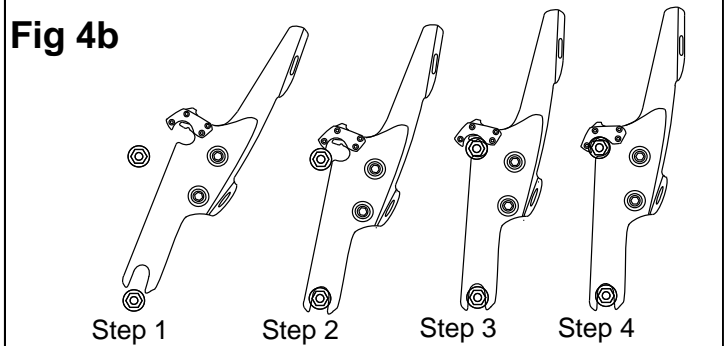

Fig 5
7. This is a detachable fairing, ALWAYS make sure the Locking Mechanism is fully engaged after installation (See Fig 5)